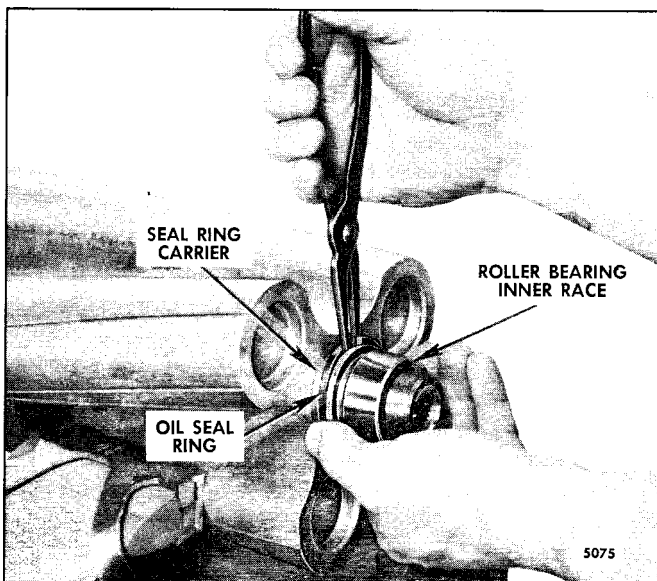

Fig. 8 - Removing or installing Oil Seal Ring
- a. Clamp one lobe of the rotor in a bench vise equipped with soft jaws (Fig. 8). Tighten the vise just enough to hold the rotor stationary.
- b. Remove the oil seal ring from the seal ring carrier on each blower rotor shaft with a pair of snap ring pliers (Fig. 8).
- g. Install an oil seal ring in the ring groove of each carrier with a pair of snap ring pliers in the same manner as shown in Fig. 8.